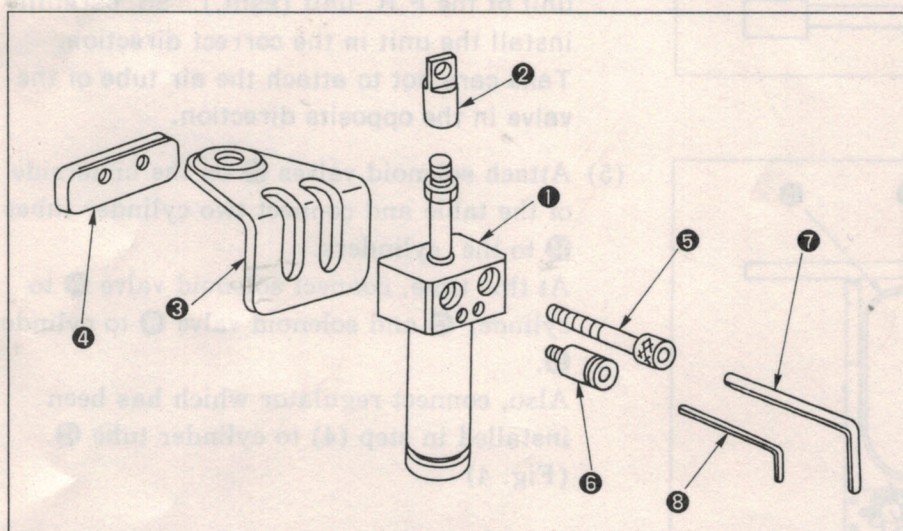

Fig. 1
- (1) Screw cylinder knuckle ② in presser foot lifting cylinder ① and fix the knuckle with the nut supplied with the cylinder.
Temporarily fix presser foot lifting cylinder ① on cylinder mounting base ③ using cylinder installing plate ④ and bolt ⑤. (Fig. 1)